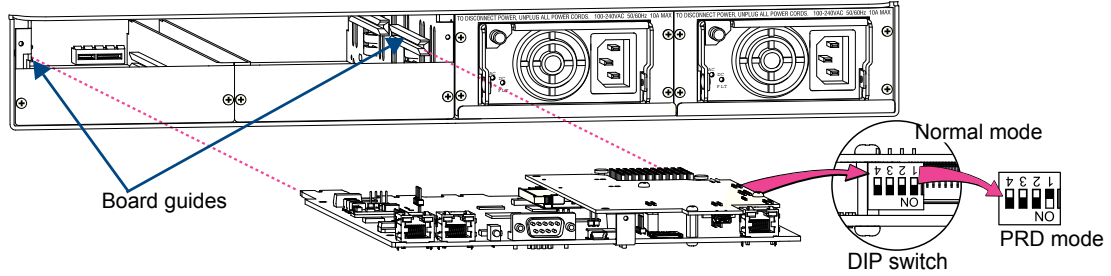

FIG. 131 Set Position #1 DIP switch to ON
7. Slowly slide the CPU board back into the empty slot, being careful to align the edges in the board guides along the insides (FIG. 131).